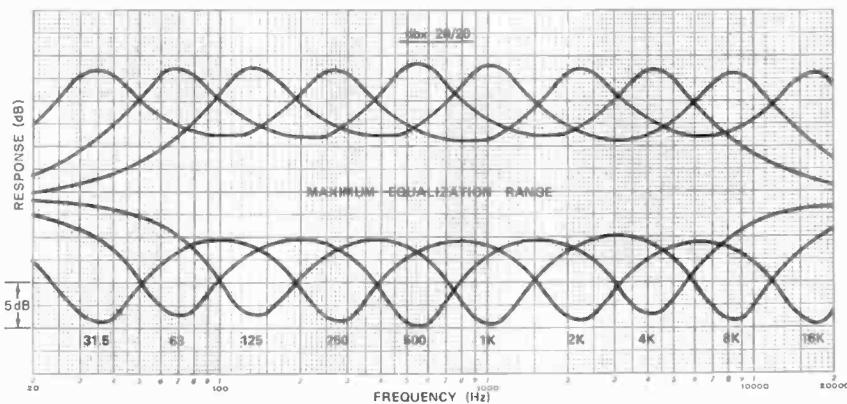

Fig. 1. Equalization filter curves for the dbx 20/20.
**Laboratory Measurements.** Filter curves of the 20/20 are shown in Fig. 1. Bandwidths are reasonably accurate, and the ranges of gain adjustment are as specified. Gain in the 0-dB position was 1.0. Total response variation in the FLAT condition was 0.8 dB from 20 to 20,000 Hz. The HFR CURVE response started to roll off at 1 kHz, reaching a plateau of  $-6.5$  dB in the 8-to-17-kHz range. When we averaged several arbitrary and sometimes extreme EQ curves with the computer, the results seemed correct, although we did not verify the calculations mathematically.